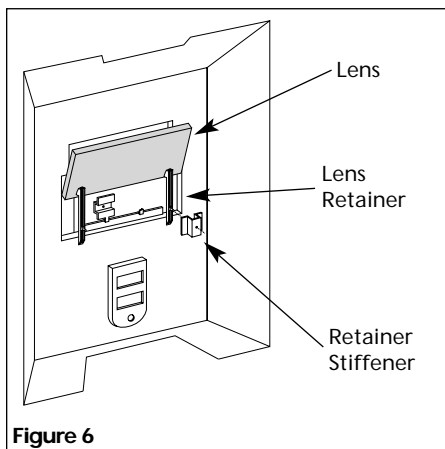

Figure 6
9. Carefully slip the contact tip over the wire and screw it into the torch neck. Install the nozzle by turning **clockwise** (See Figure 6). Cut the wire off approximately 1/4" from the end of the nozzle.
3. Attach the stiffeners over the pins on the lens retainers (See Figure 6).